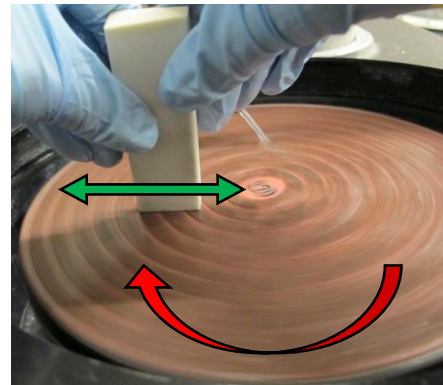

Figure 2: Apply the dressing stick to the side of the disc that rotates away from the user. Simultaneously move it from the center to the edge of the disc.
4. Using both hands, hold the dressing stick lengthwise and apply firm pressure to the side of the disc that rotates away from the user. Simultaneously, move it from the center to the edge of the disc (Figure 2). Dressing times depend upon the elapsed time between dressing operations.